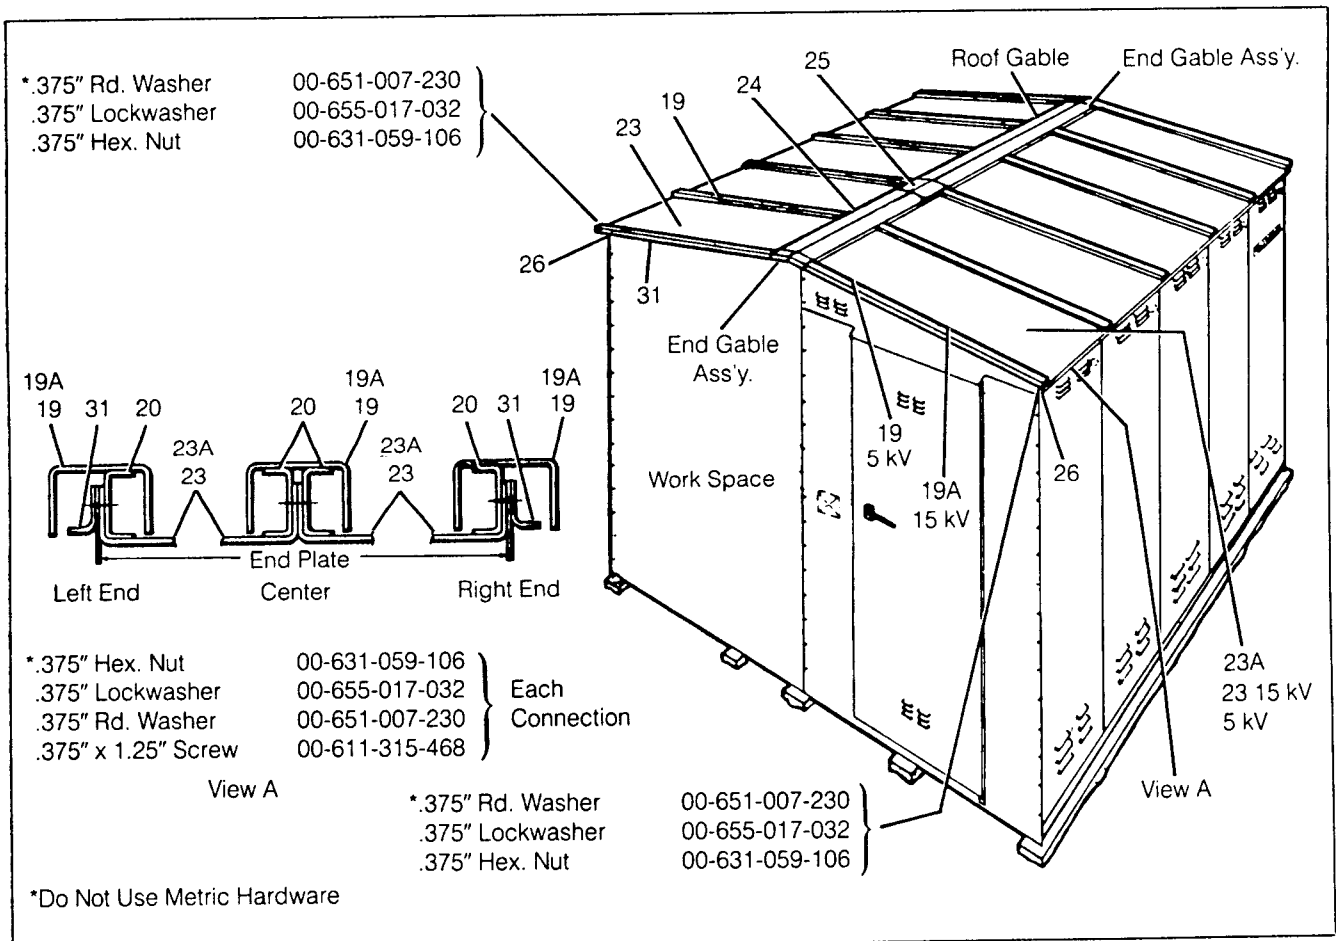

Figure 39. Roof Assembly (5 kV and 15 kV) — Single Aisle With Work Space
14. Remove trim angle (31) from end of cubicle and attach angle (29) to end of switchgear. Install roof support (15) from cubicle to end of work space. See view "A" for attaching support (15) to angle (29).
15. Put all roof decks (23) in place and bolt to the top of the end plate and to the roof support (15). Leave hardware finger tight until Step 17. is complete.
16. Fasten roof decks (23) together using bracket (20). See view "A". Figure 39.
17. Mount trim angle (31). Tighten bolts.
14. Remove angle (31) from L.H. end of cubicle (see Figure 39). Attach angle (29) to end of switchgear, Figure 38. Install roof supports (15) from cubicle across beam (14) to end of work space. See view "A" for attaching support (15) to angle (29).
15. Put all roof decks (23A) in place and bolt to the top of the end plate and to the roof supports (15). Leave hardware finger tight until Step. 17. is complete.
16. Mount trim angle (31).
17. Fasten roof decks (23) together using brackets (20). See view "A"; Figure 39. Tighten bolts.